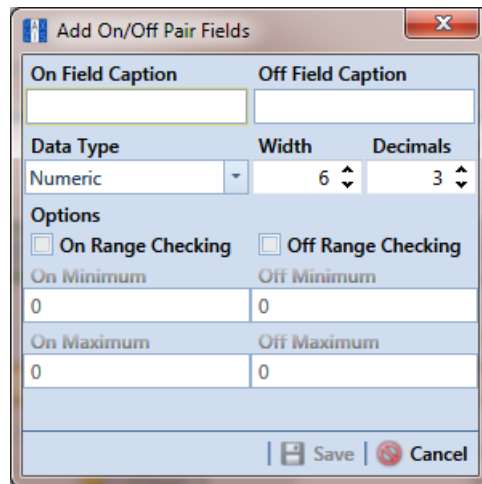

Figure 3-56. Add On/Off Pair Fields
- Click **On/Off Pair** in the toolbar to open the *Add On/Off Pair Fields* dialog box (Figure 3-56).
7 If you selected the *Numeric* data type earlier in step 6 (page 104), set the length of the field using the **Width** and **Decimal** fields (Figure 3-56, page 103).